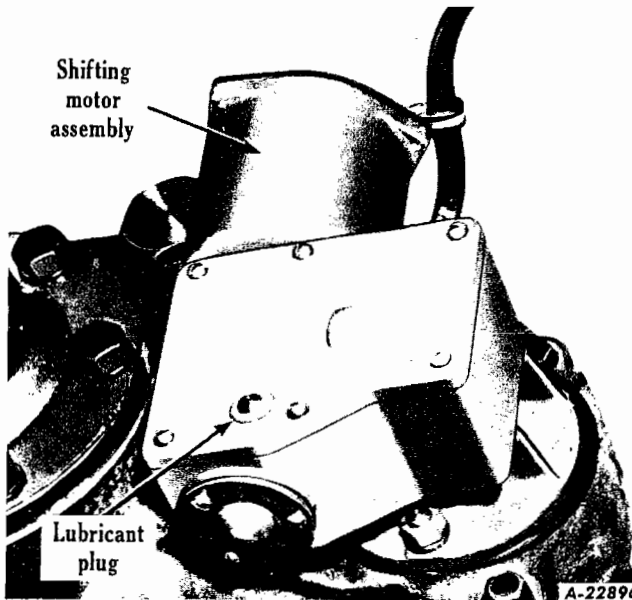
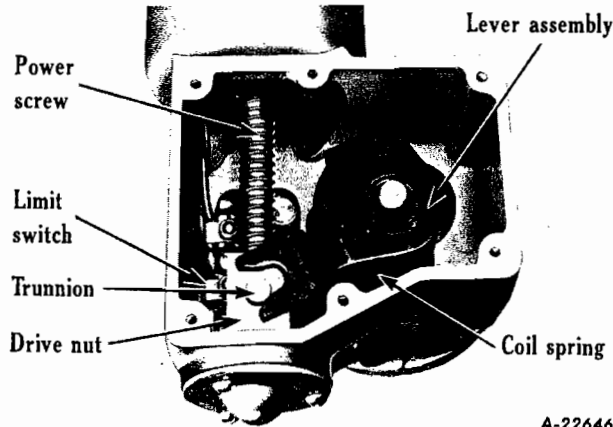

Fig. 1 - Electric Shift Unit. Mounted on two speed axle.
Fig. 6 - Axle Shift Unit In High-Range Position
The electric shift device consists, in the main, of an electrically operated shifting fork and shifting unit located on the two-speed axle (Fig. 1). The shift fork is activated by a two-directional coil spring and lever assembly (Figs. 6 and 7). The purpose of this spring and lever assembly is to move the shiftfork quickly into the high or low speed position when gear load is momentarily removed from the differential.
This unit shifts the axle into high or low-range. Fig. 6 shows the axle shift unit in the high range of the axle. In this position wire (b) (Fig. 3) carries current to one field of the motor (6) (See Fig. 20 for Part Identification) so that the armature and drive screw (20) turn in a clockwise direction and move the nut down. When the nut has traveled a sufficient distance to wind the spring (23), a contact bumper on the nut breaks an electrical connection on the automatic switch (17) so that the motor is no longer energized and the armature stops rotating. To make sure that the nut cannot travel back on the screw due to vibration, a ball screw detent spring (Fig. 12) mounted on the cover (26) holds the nut at the end of its travel on the screw. The nut moves the spring winding lever (24) down which pivoting on the pin (21), winds the torsion spring (23) for high. Thus an increased load is put on the spring, and in this position the axle is ready to snap into the high speed ratio as soon as the load on the axle gears is relieved. The torsion spring is assembled in the unit so that it is under 45 to 65 pounds pressure, depending on the size of the axle. When the spring winding lever is moved so that the spring is wound, the pressure